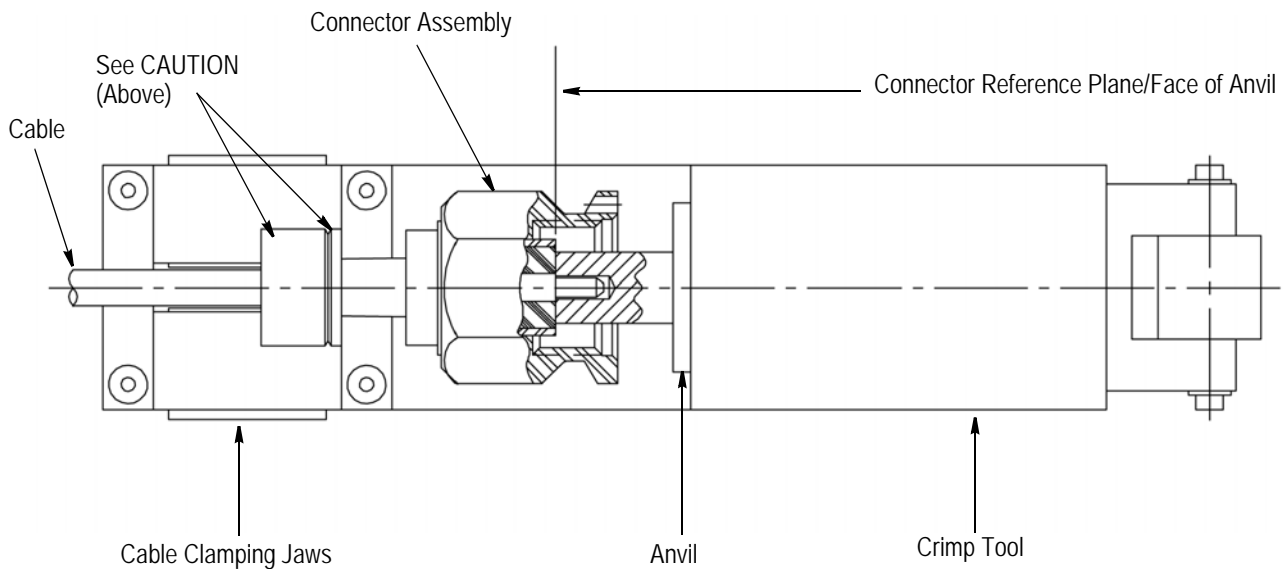

Figure 5
3. To install the cable into the connector assembly, place the cable as shown in Figure 5.